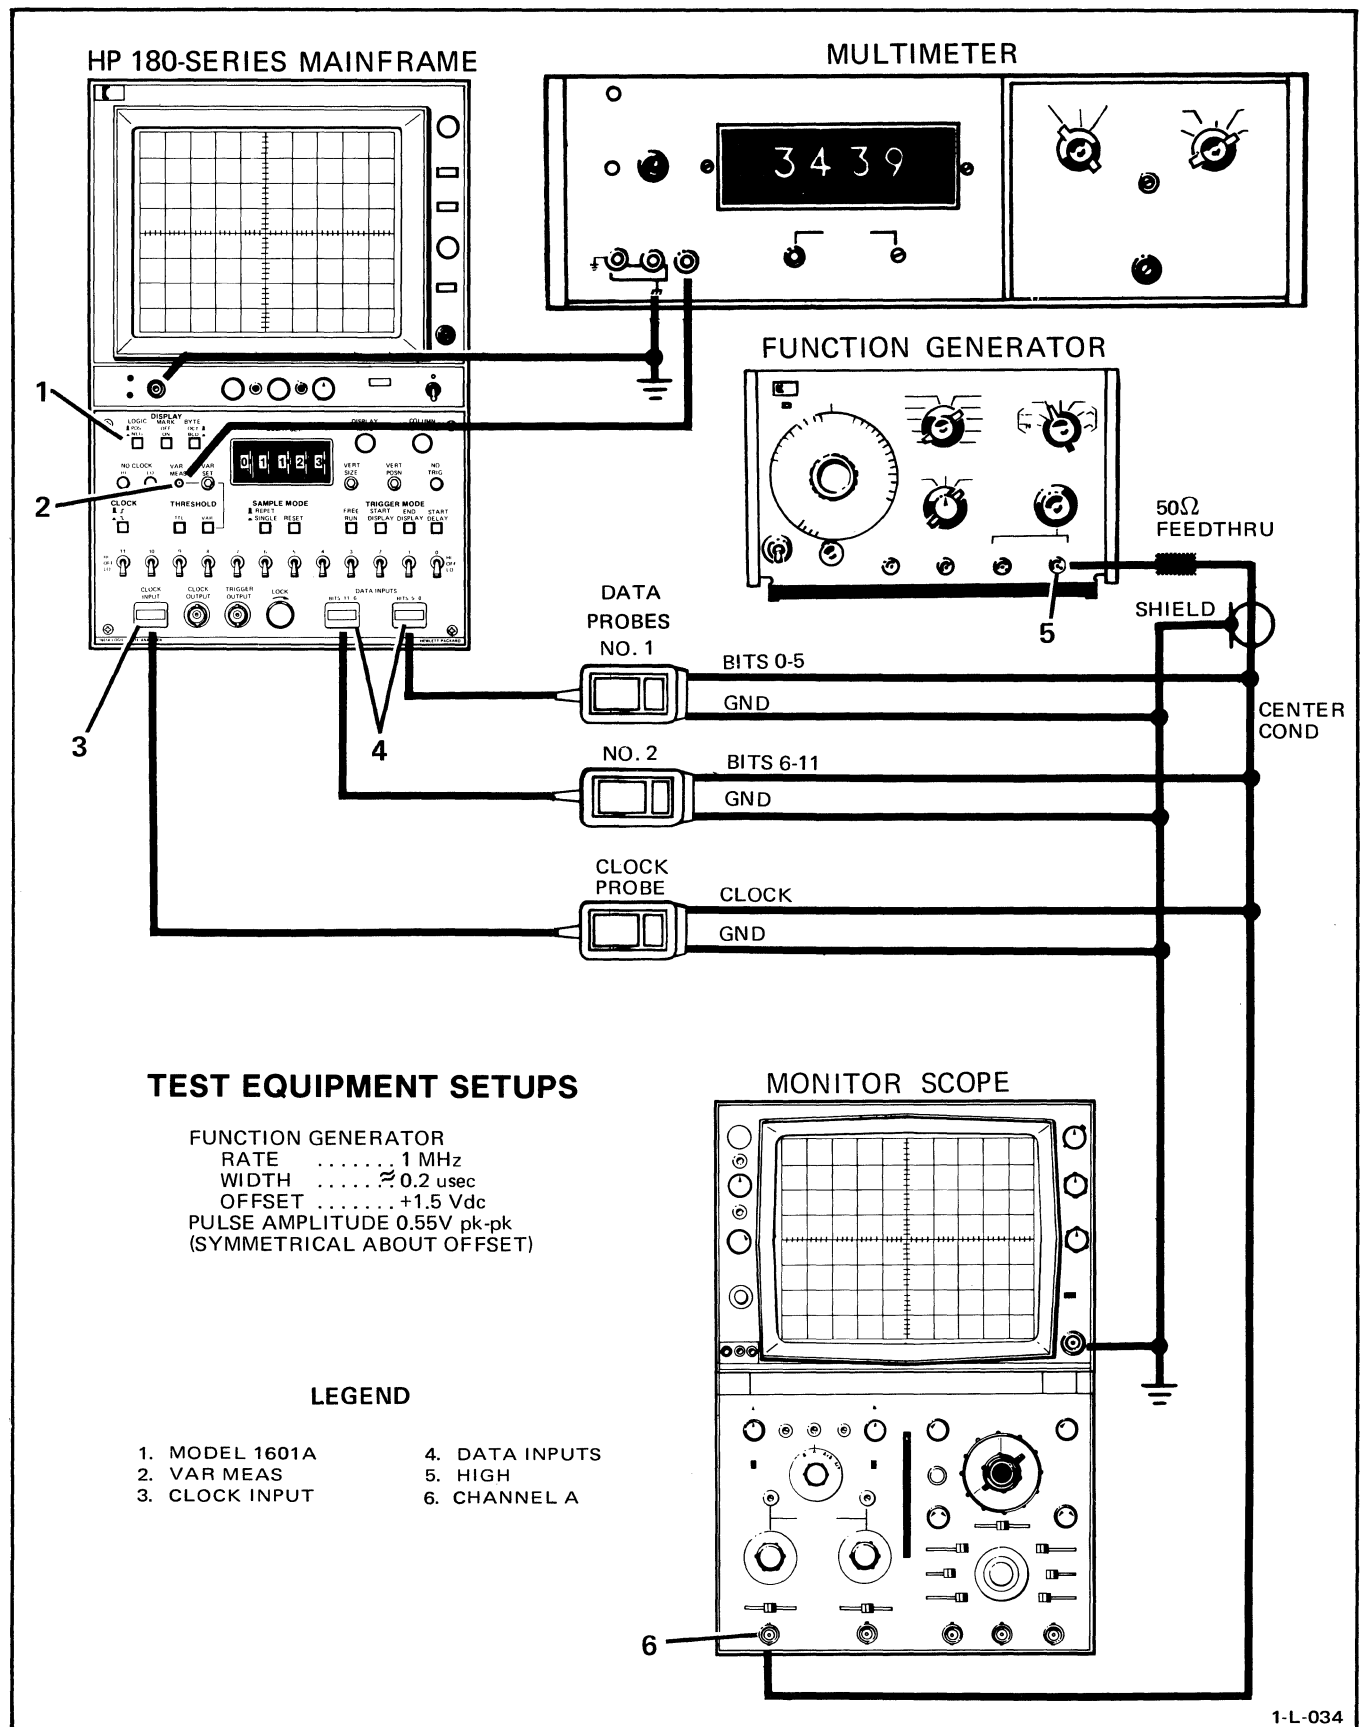

Figure 5-3. Threshold/Logic Swing Test Setup
i. Refer to figure 5-3 for suggested test equipment setup.